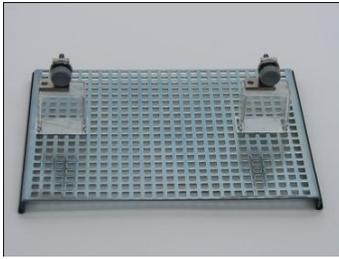

Fig. 2
- Put the two universal holders onto the mounting plate, with the polycarbonate plate fitting just inbetween (Fig. 2).